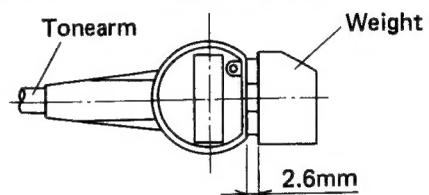
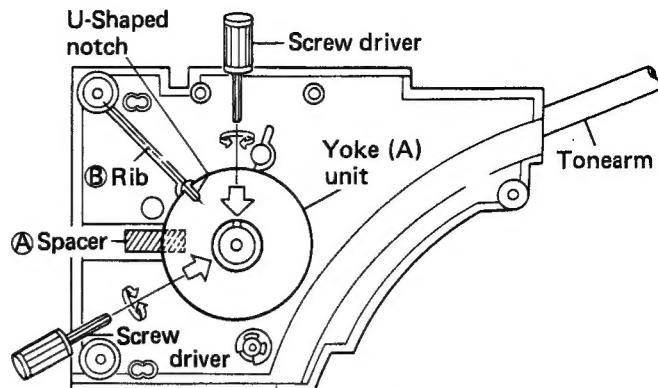

Fig. 1-6 Tracking force adjustment
Fig. 1-9 Positioning the Yoke (A) unit 1
1. With the gap between the tonearm and balance weight set to 2.6mm as shown in Fig. 1-6, tighten the weight in that position.
■ Positioning the Yoke(A) Unit
1. When mounting the tonearm, align the center of the screw with the tonearm groove, and tighten the hex screw by applying a torque of 6kg.cm (see Fig. 1-9).
2. Insert a 2mm spacer in Ⓐ at this stage. Then with the tonearm in the arm rest, align the center of rib (part A) with the center of the U-shaped notch in the yoke (A) unit, and tighten the two hex screws by applying torque of 12kg.cm (see Fig. 1-9). Remove the spacer after tightening the screws.